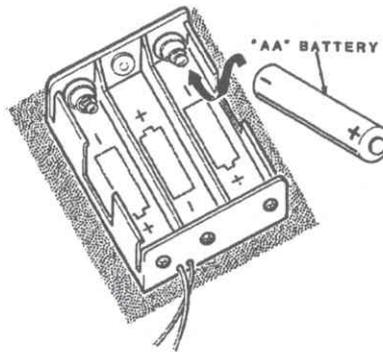

Figure 4-7
2. Refer to Figure 4-7 and locate the positive (+) and negative (-) symbols that are embossed inside the battery holder.